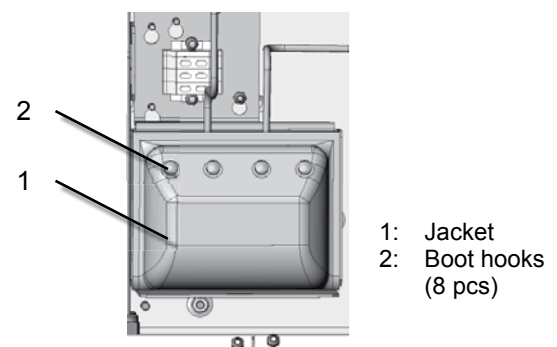

Fig. 4-10: Heated jacket
13. Lay the lace cord around the boot hooks and close the jacket (Fig. 4-10).